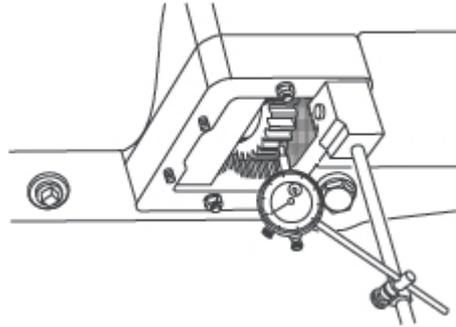

Figure 17 Checking PTO Adaptor to Transmission Backlash
- c. Install a dial indicator onto the adaptor housing with the dial indicator plunger resting squarely on the adaptor gear (Figure 17).